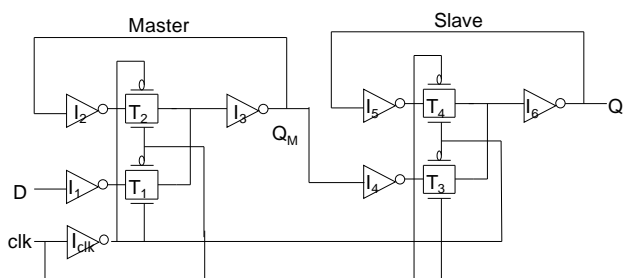

Fig. 8
8. Consider the MUX type ET FF in Fig. 8. Assume the propagation delays of $I_{1-6} = 2\text{ns}$ and $T_{1-4} = 3\text{ns}$ respectively. The delay between clk and !clk is 2.5ns . (5%)